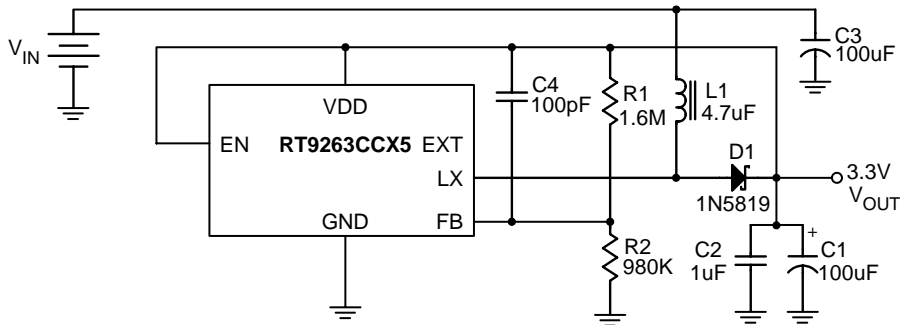

Figure 1. RT9263CCX5 Typical Application for Portable Instruments below 400mA
Referring to application circuits Figure 1 to Figure 4 the output voltage of the switching regulator (V_{OUT1}) can be set with Equation (1).
Referring to application circuits Figure 1 to Figure 4. The selection of R1 and R2 based on the trade-off between quiescent current consumption and interference immunity is stated below:
- Follow Equation (1)
- A proper value of feed forward capacitor parallel with R1 on Figure 1 to Figure 4 can improve the noise immunity of the feedback loops, especially in an improper layout. An empirical suggestion is around 100pF ~ 1nF for feedback resistors of MΩ, and 10nF ~ 0.1μF for feedback resistors of tens to hundreds KΩ.